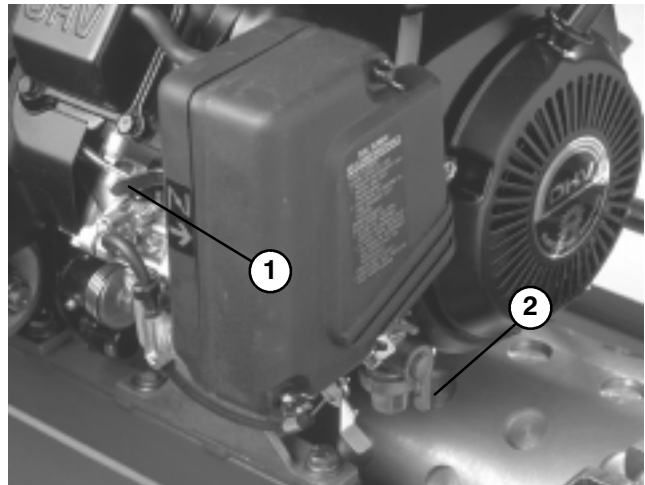

Figure 20
Choke Lever (Fig. 20) — Located on left front of engine. Lever has two positions: RUN and CHOKE. Move lever to CHOKE position when starting a cold engine. After engine starts move lever to RUN position.
Fuel Shut-off Valve (Fig. 20) — Located on left front of engine. Valve has two positions: CLOSED and OPEN. Move lever to closed position when storing or transporting machine. Open valve before starting engine.
2. Open fuel shut-off valve on engine (Fig. 20).
5. Move choke lever (Fig. 20) to half-open position when starting a cold engine. Choke may not be required when starting a warm engine.